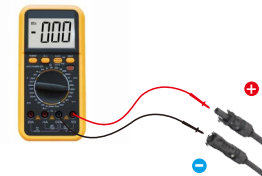
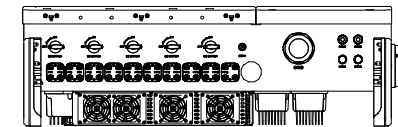

Figure 3.22 Multimeter measurement
Figure 3.23 Connect the DC Connectors to the Inverter
5. Measure PV voltage of DC input with multimeter, verify DC input cable polarity (see figure 3.22), and ensure each string voltage is in range of inverter operation. Connect DC connector with inverter until hearing a slight clicking sound indicating successful connection. (see figure 3.23)